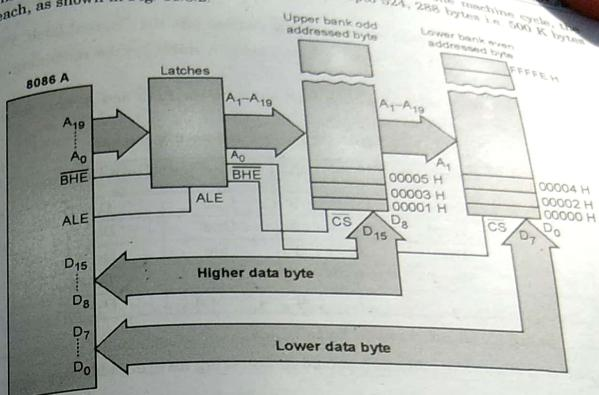

Fig. 11.8.2 : 8086 memory banks block diagram
In order to make it possible to read or write a word with one machine cycle, the memory of 8086 is divided into two "banks" of upto 512, 288 bytes in 512 K bytes each, as shown in Fig. 11.8.2.
- The even addressed bank is also called as lower bank and the data lines of this bank are connected to the lower eight data lines i.e. D_0 to D_7 of 8086 as shown in Fig. 11.8.2.
- The odd addressed bank is also called as the upper bank and the data lines of this bank are connected to the upper eight data lines i.e. D_8 to D_{15} of 8086 as shown in Fig. 11.8.2.